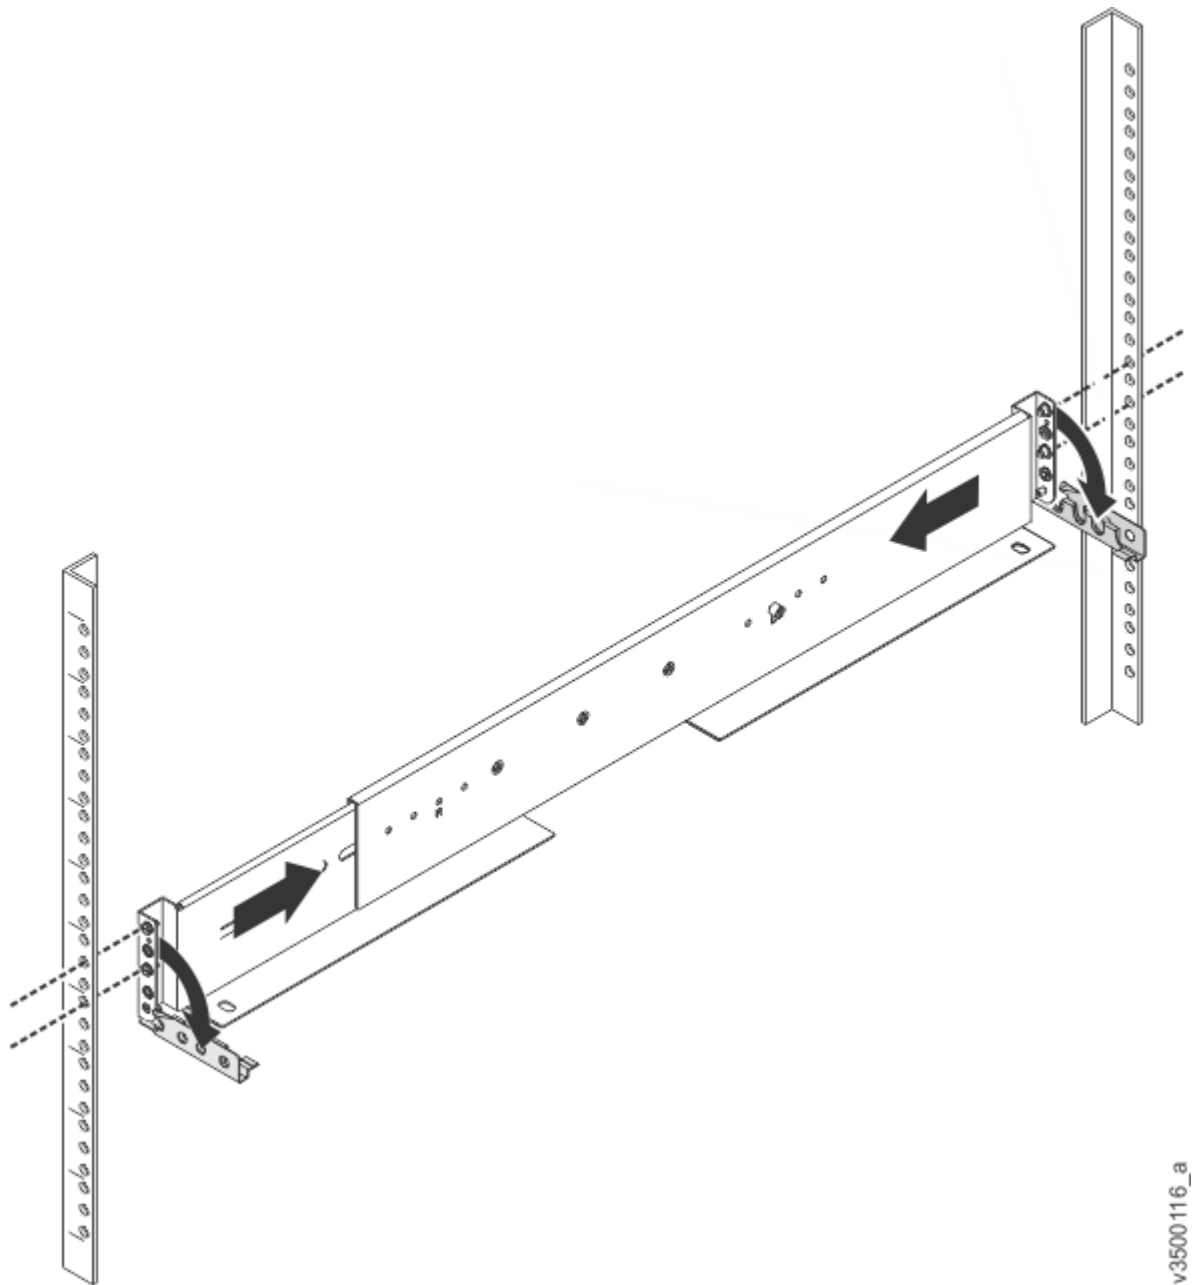

Figure 86. Compressing rail for removal from rack
11. Compress the rail against its spring to shorten it, then remove it from inside the rack (Figure 86 on page 137).